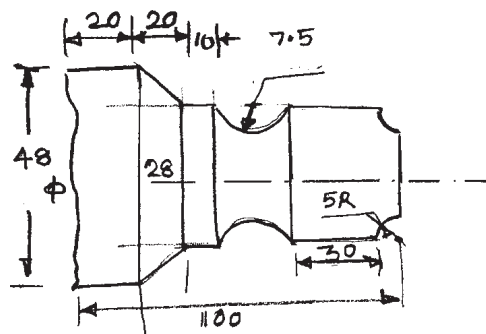

Fig. 1, Q. No. 3(b)
b) Write a complete NC part program for the component shown in Fig. 1, Draw the tool path and take raw material MS blank of 100 mm × 50φ, spindle speed 600 RPM and feed 0.1 mm/rev. all dimensions are in mm [10]